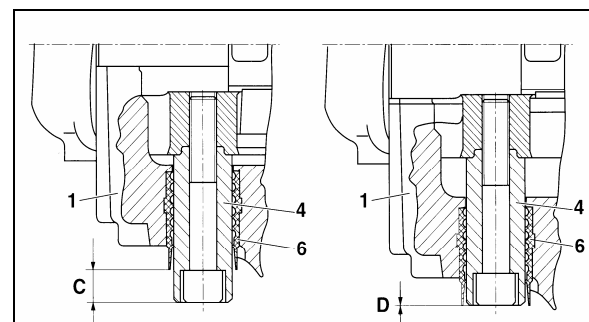

FIGURE 28: BRAKE PAD CHECK
The pad thickness can be seen but would require removal of the tire and rim. An indicator of the pad wear condition is available by inspecting the floating pin location in relation to the rubber bushing as shown in figure 28. When pads are in new thickness condition, the pin will be exposed (C) 19 mm (3/4"). When the pads are worn to replacement conditions, the pin will be nearly flush to the bushing (D) or within 1 mm (3/64") of the edge of the rubber bushing.